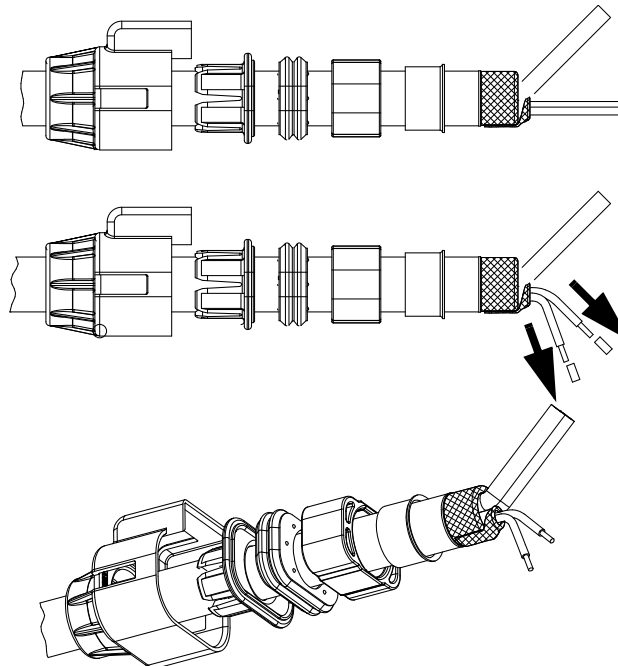

Figure 10
8. Separate the HVIL conductors and strip to length as shown in Figure 10. Refer to Application Specification 114-18021 for strip length.